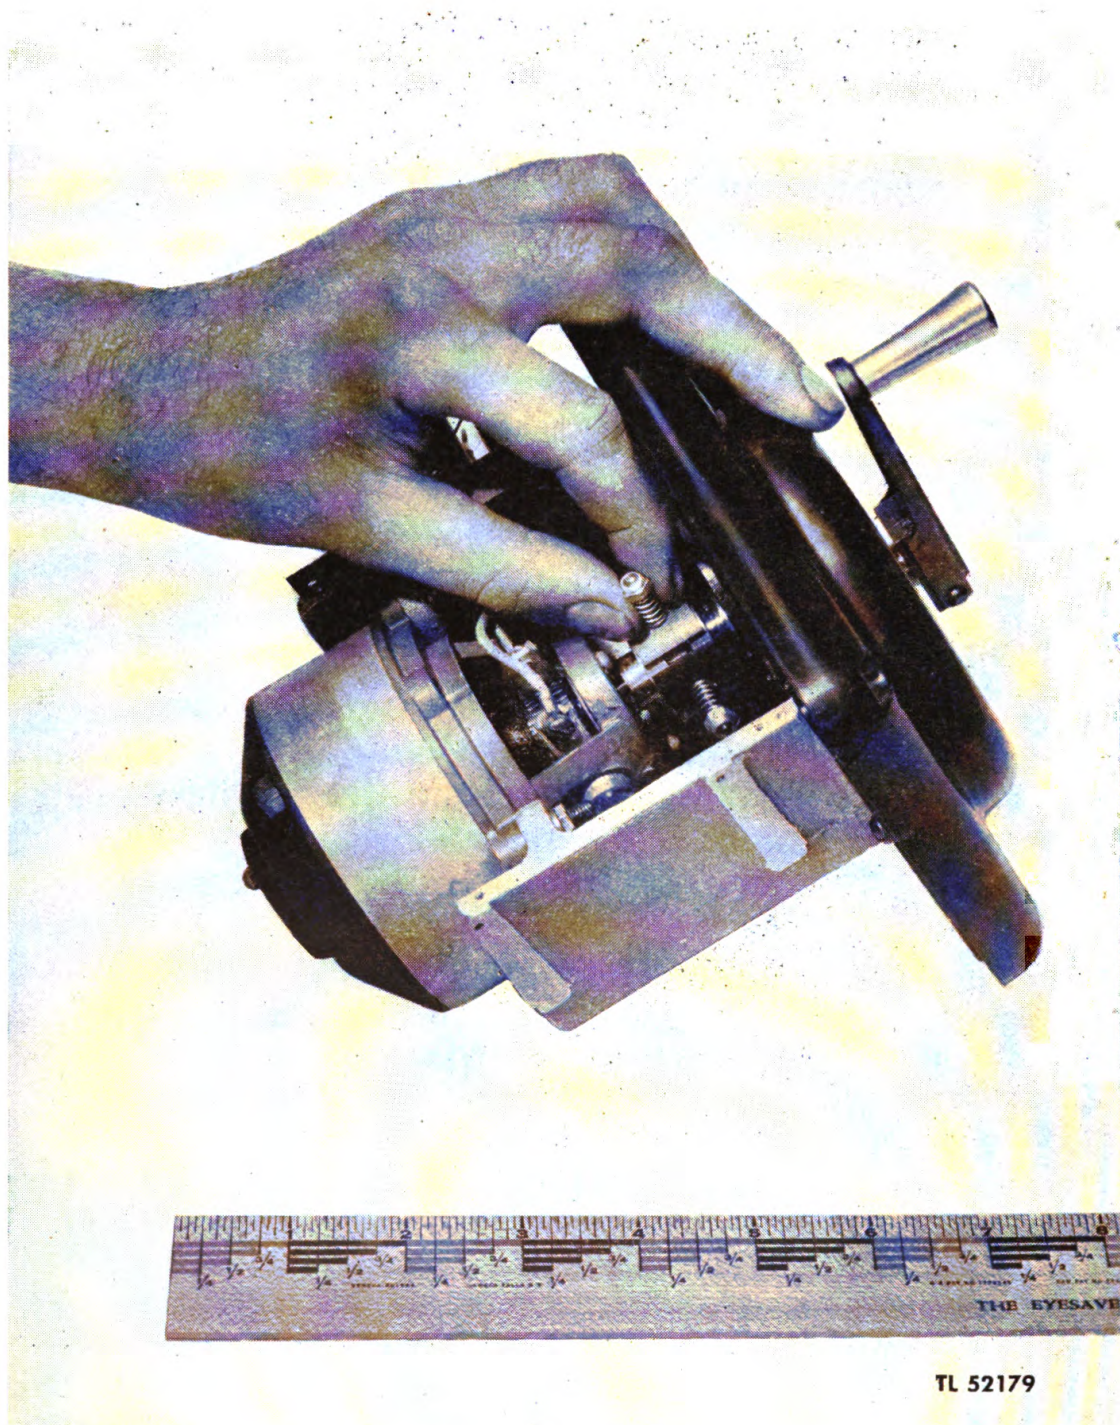

Figure 12. Adjustment of output voltage.
a. If the output voltage is low, slightly tighten the four elastic stop nuts on the clutch assembly as shown in figure 12 until the voltage is correct when the clutch slips.